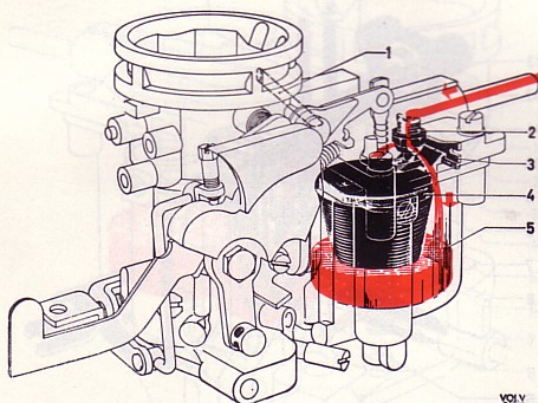

Fig. 64. Float system
The float keeps the fuel at the correct level. When the fuel has increased to this level the float (4, Fig. 64) is lifted upwards and pushes the needle in the valve (2) against its seat through the medium of the float arm so that the flow of fuel is cut off. When the chamber level goes down the same procedure is repeated but in the reverse direction. The float bowl is ventilated through a hole (1) which is connected at the top with the upper part of the carburettor. The float is made of nylon and is fitted with a fixed arm.